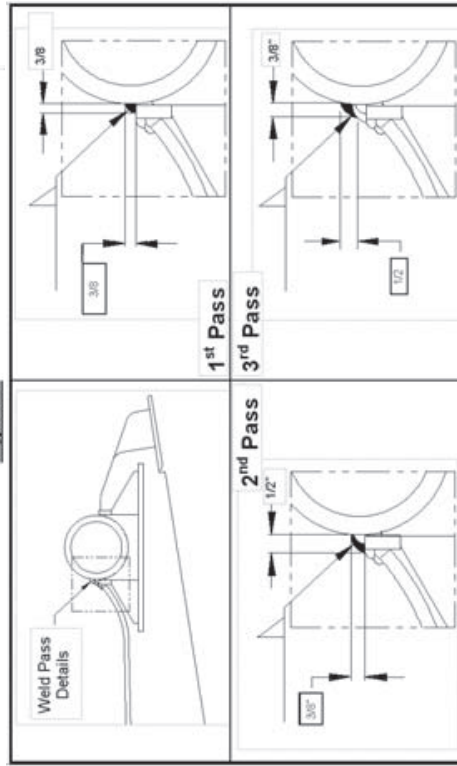

Figure 6
- Three passes are required on each area where the axle is welded to the arms. Figure 6 shows the size of the weld of each pass.